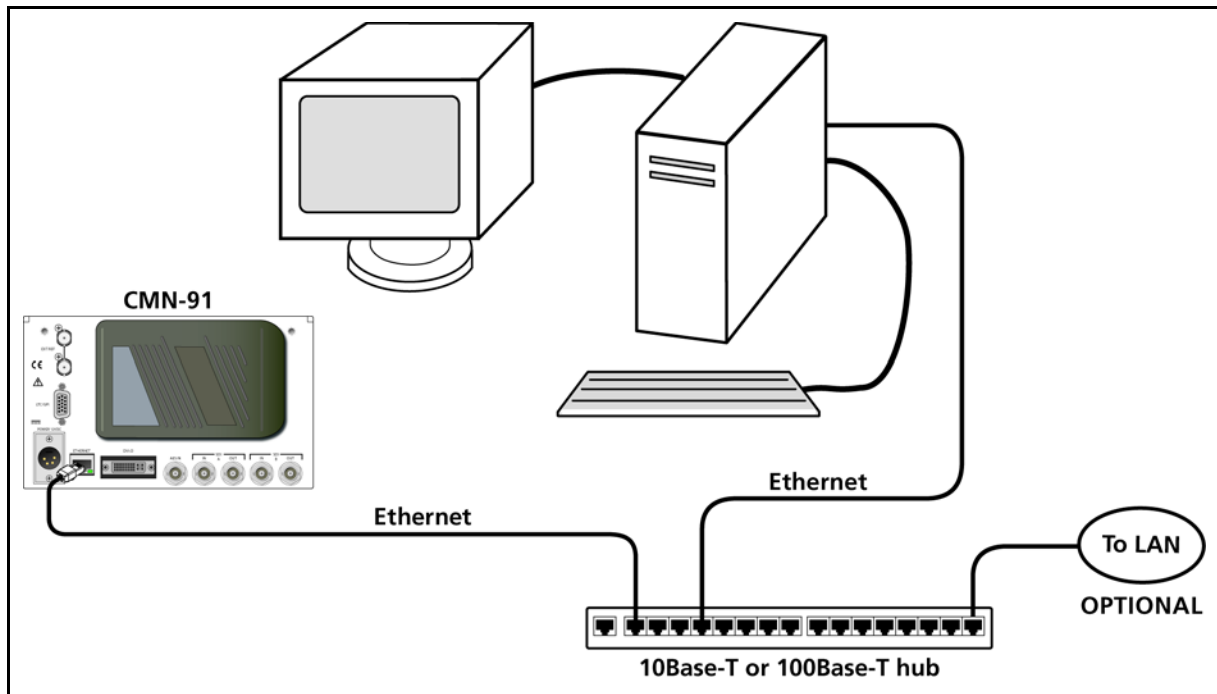

Figure 2-6 CMN-91 Network PC Connection
- For a network connection, connect the network hub to the back panel of the CMN-91 using a CAT5 network cable (not included). See Figure 2-6.